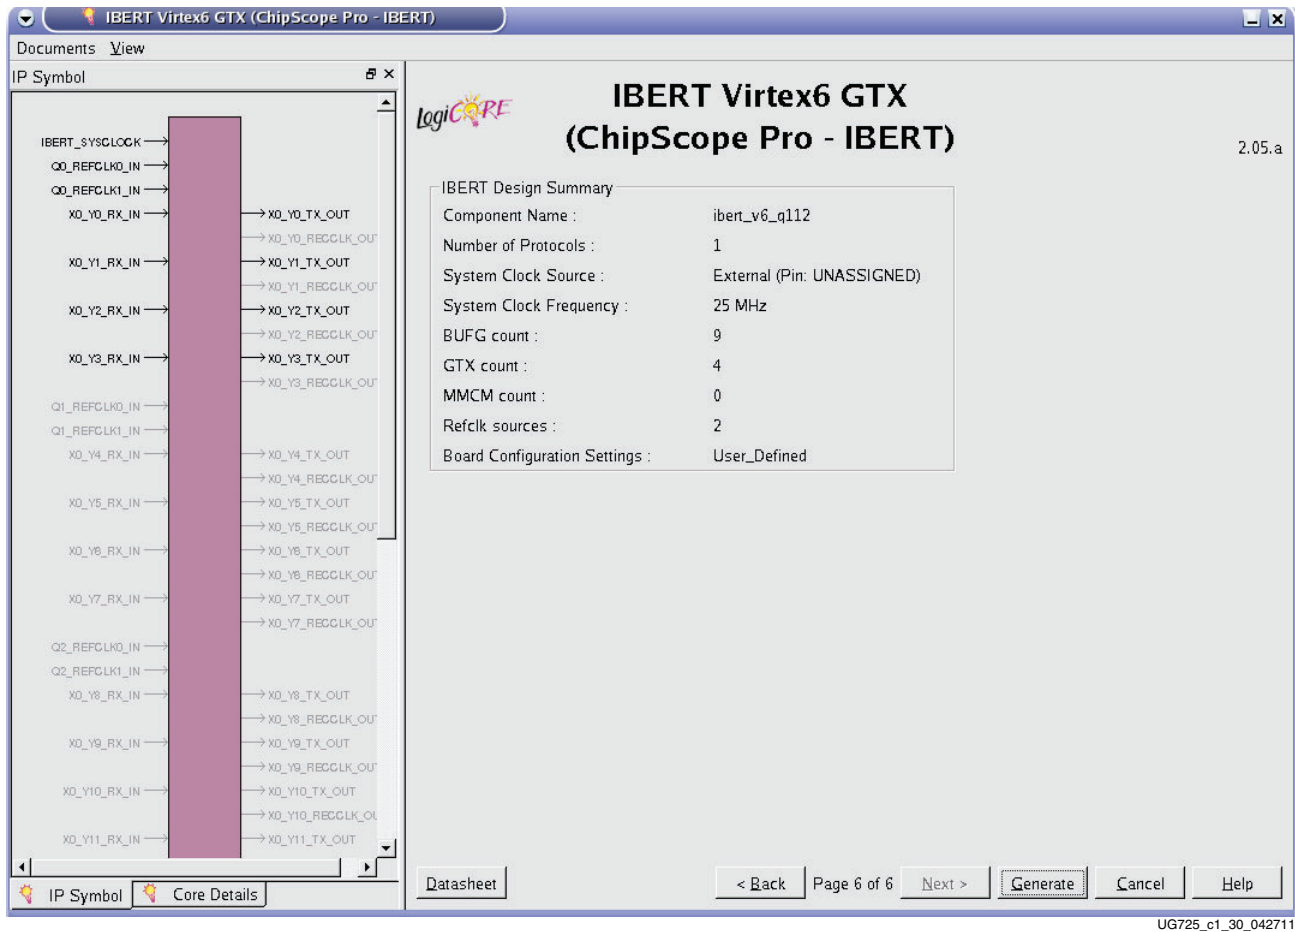

Figure 1-30: IBERT Design Summary
- After page 6 of the IP customization window appears, review the IBERT Design Summary and click **Generate** (Figure 1-30).